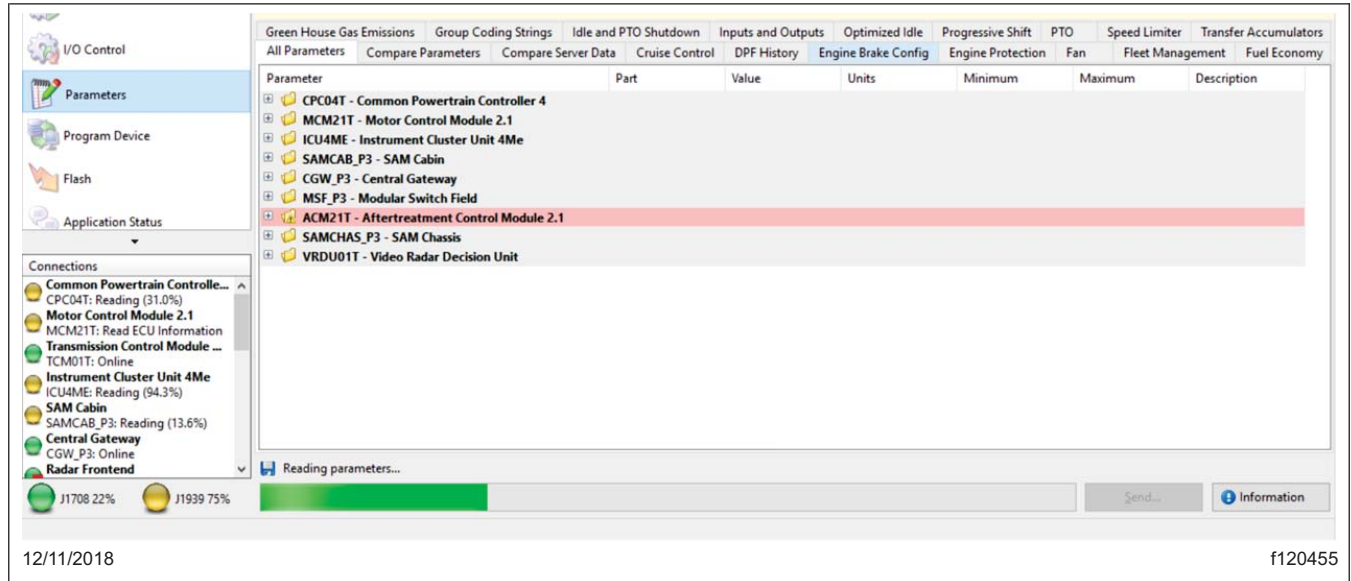

Fig. 4, Reading Vehicle Parameters on DiagnosticLink
5. Once all controllers are connected, read the vehicle parameters. See Fig. 4.